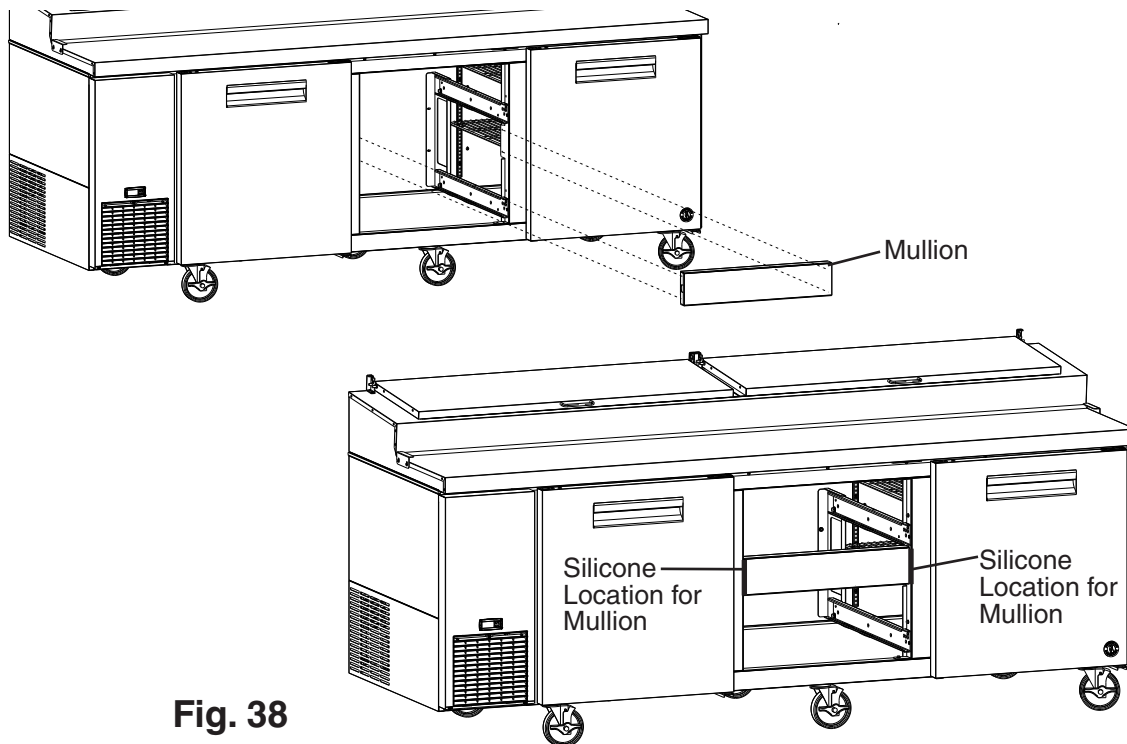

Fig. 38
- 26) Place a bead of food grade silicone down the 2 outside vertical gaps between the mullion and appliance. See Fig. 38.